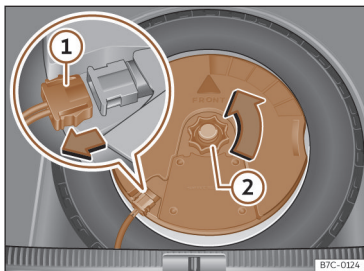

Fig. 224 In the luggage compartment: remove the subwoofer.
- Disconnect the *subwoofer*»» **Fig. 224** ① speaker cable.
- Turn the securing wheel in an anti-clockwise direction»» **Fig. 224** ②.